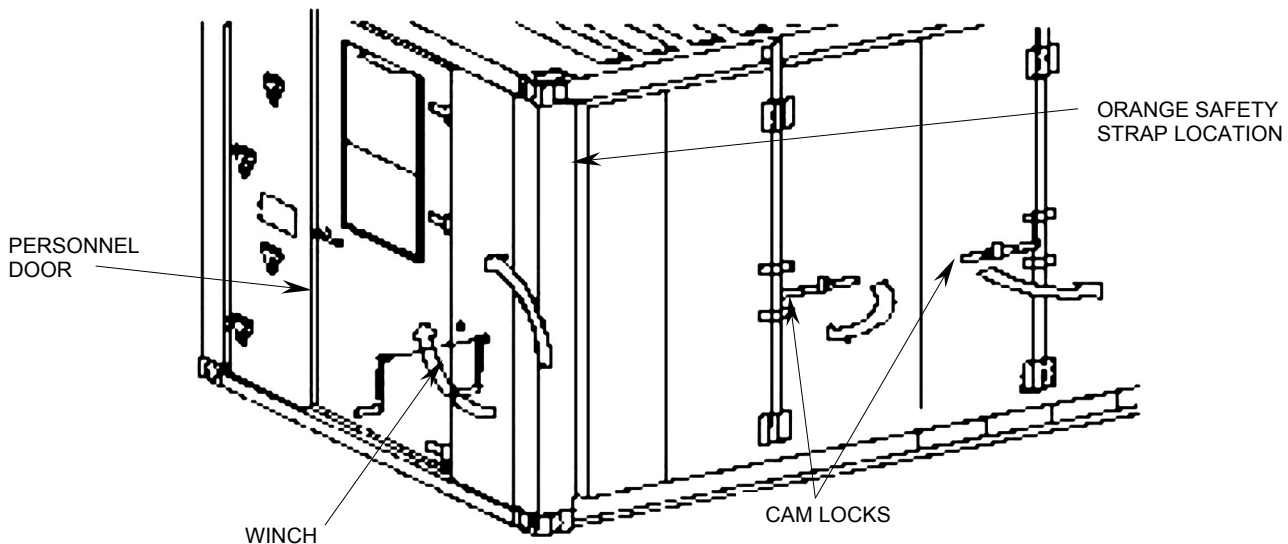

Figure 4. Shelter Expansion.
2. Verify that the orange safety strap is attached to the serving wing (the right side when viewed from the end containing the personnel door). Climb onto the roof of the container and attach the strap if it is not (if the CK is on the ground, it will not be necessary to climb onto the roof to attach the strap). Figure 4 shows where the safety strap is located on the serving wing. It is in the same location on the food preparation wing.
4. Insert the winch handle into the right winch drive slot and crank clockwise until the cable is free of slack (the winch handle becomes harder to turn). See Figure 4.